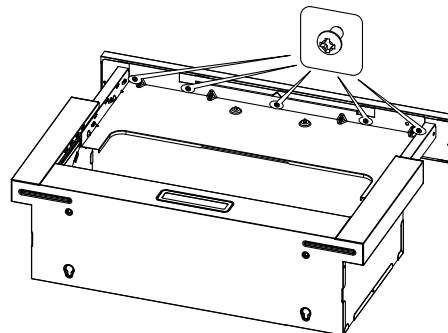
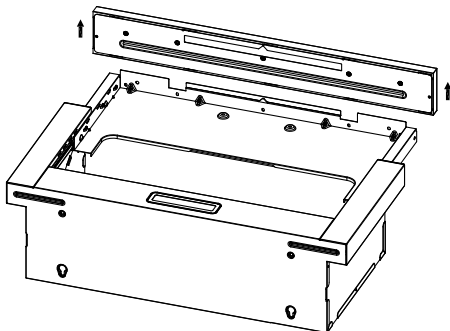

Fig 4
Fig 5
- Unscrew all of the five screws and pull up the front fascia (fig 4 and fig 5).